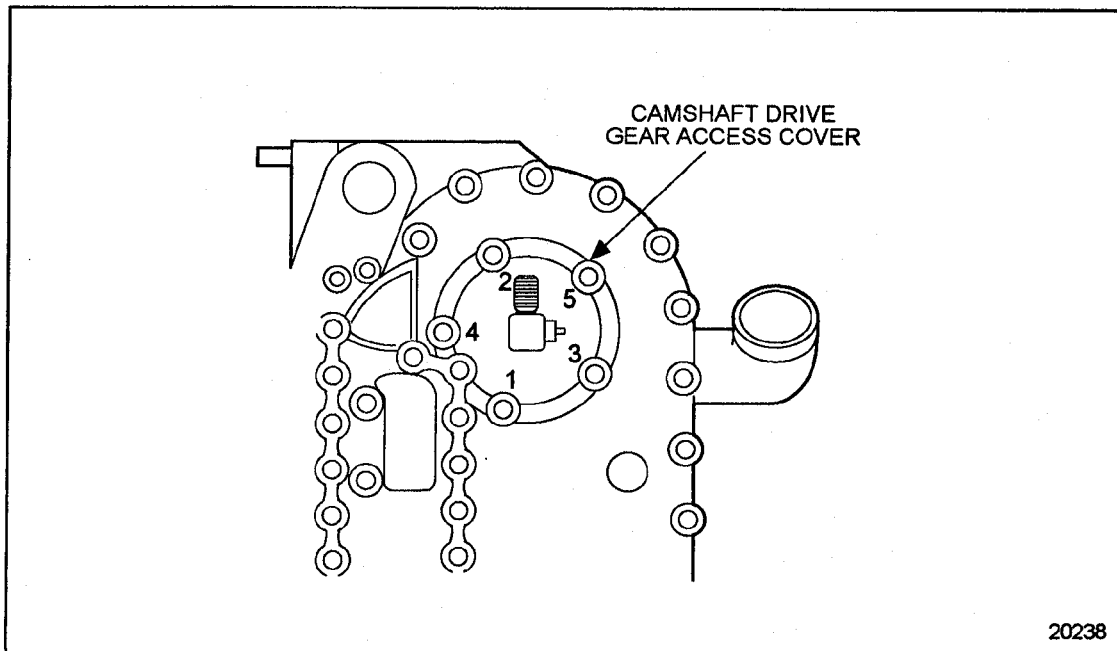

Figure 1-351 Camshaft Drive Gear Access Cover Torque Sequences
13. Torque the bolts to 30-38 N·m (22-28 lb·ft), using the tightening sequence. See Figure 1-351.